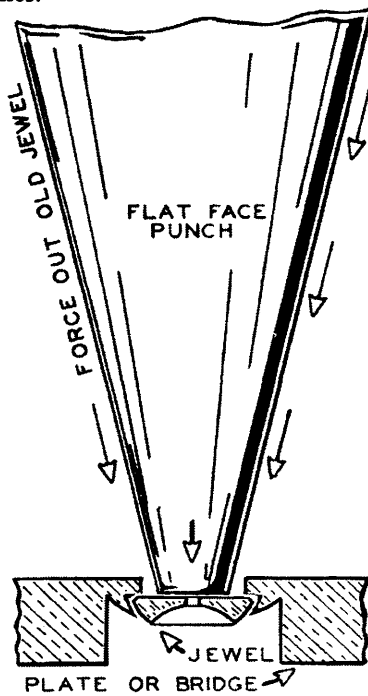

FIG. 12-17
You will find in some watch movements, especially those made in Switzerland, jewels set directly in the bridge or plate without the use of bushings or settings, hence the name "plate jewel." In figure 12-17 is shown a cross section of a Swiss type of jewel set directly in the plate as shown in figure 12-17, then a bezel is cut around the opening in order to have a thin edge to burnish over the jewel. Force out a broken jewel with a flat face staking punch.
1. Force out broken jewel with a flat face staking punch (figure 12-17). The bezel will be forced open to a certain extent.